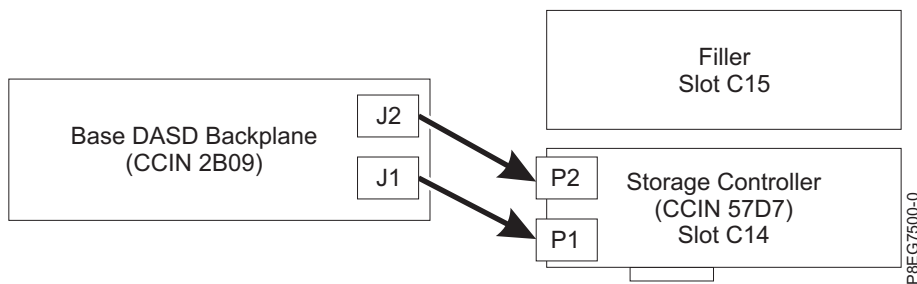

Figure 10. Reconnecting the SAS cable in a base-storage configuration
- If you have one PCIe3 x8 SAS RAID internal adapter (CCIN 57D7) in slot P1-C14 (base storage feature), a SAS cable connects the lower disk drive backplane connector (J1) to the P1 connector on the adapter and another SAS cable connects the upper disk drive backplane connector (J2) to the P2 connector on the same adapter. See Figure 10.